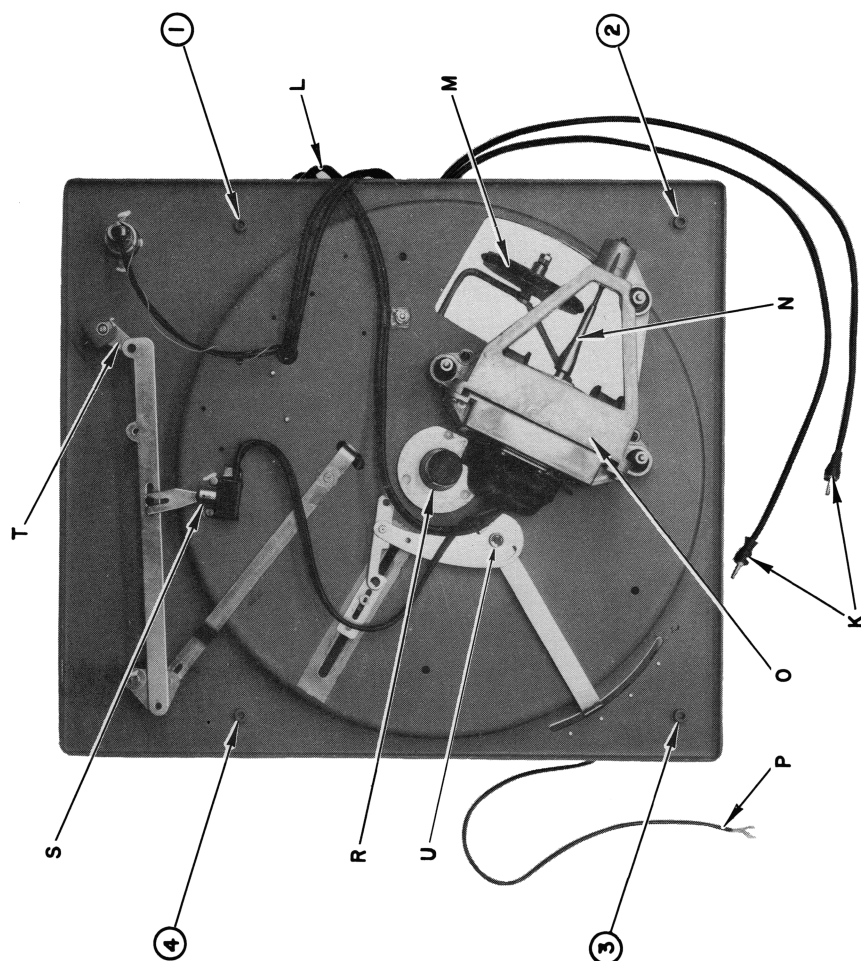

Figure 4 — Model B62 Record Player, Underside View
3. Remove filler screws from studs on bottom of player; items 1, 2, 3 and 4 in figure 4. Place a nut on each stud. Screw each of the four studs into the tapped hole on each pad. These pads are welded to the bottom of the mounting plate. Run each nut up against the mounting plate to hold the studs in position.
4. Place a second nut on each stud at the approximate distance in inches from the underside of the plate surface to the bottom of the nut (nearest plate surface) as follows (refer to figure 4):
There is not sufficient range in the groove positions to adjust the speed step grooves to provide accurate readings for 50-cycle operation. To reset the step grooves so as to show correct speeds with a 50-cycle input, proceed as follows. Refer to figures 4 and 5 for letter callouts.
A few drops of fine oil may be used to lubricate the Motor Drive Cone bearings (see figure 4, callout N) at each end of the cone. Apply a few drops of fine oil into the bearings at each end of the cone and wipe off any excess oil.